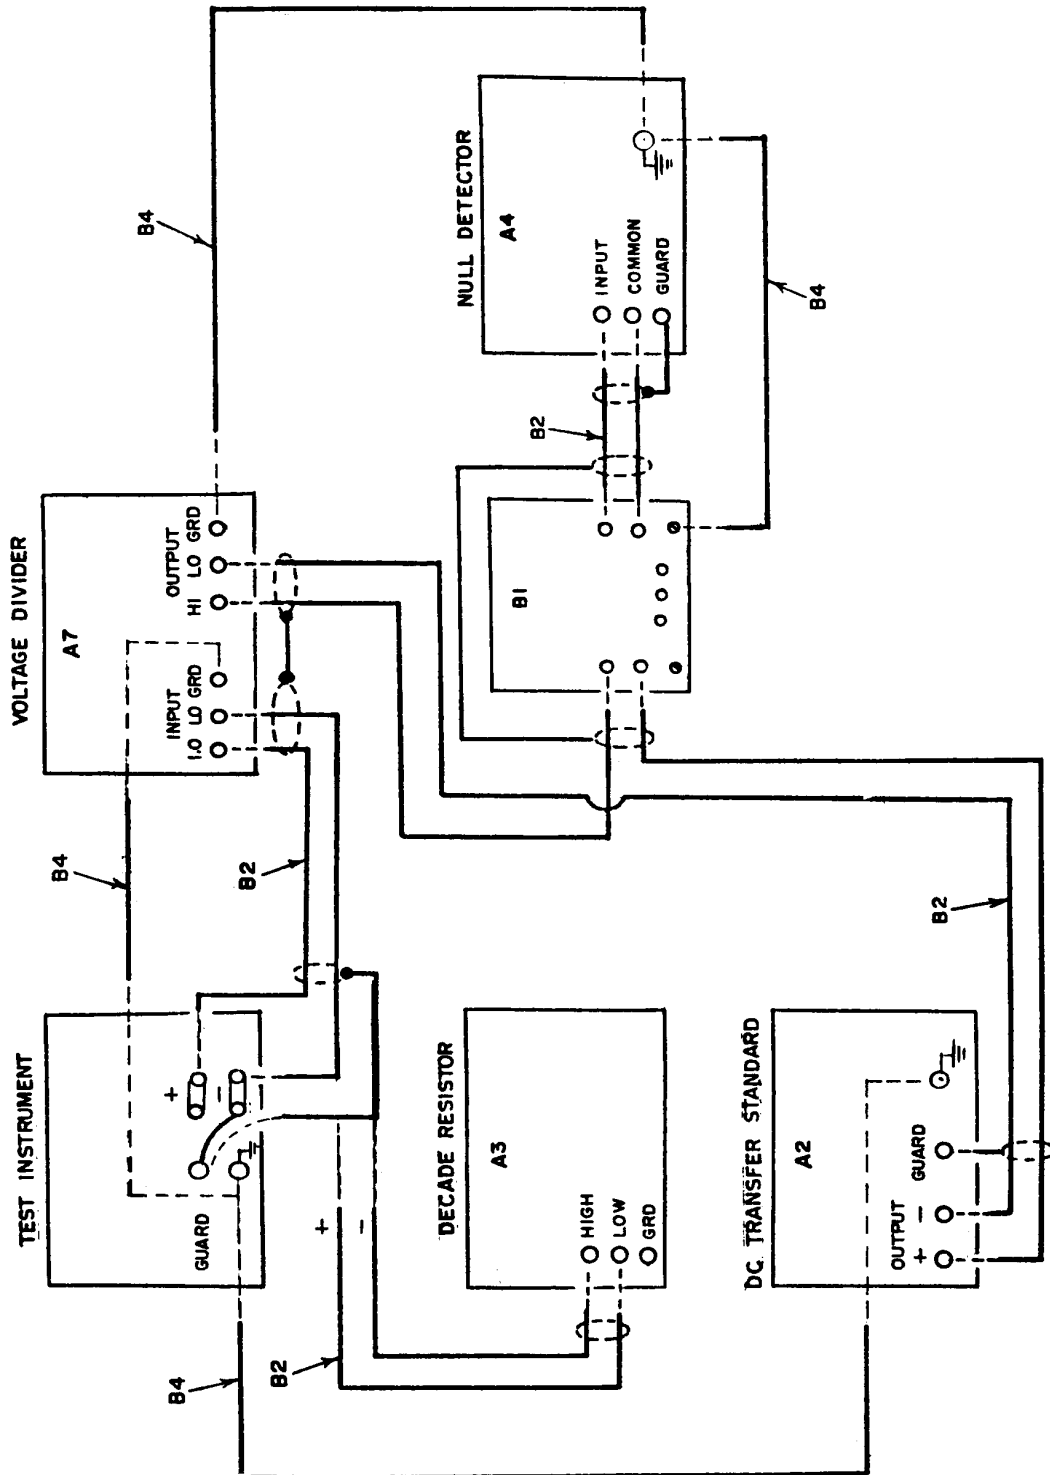

Figure 2. Regulation - equipment setup.
- (1) Connect equipment as shown in figure 2.
- (2) Set decade resistor (A3) to 20 ohms.
- (3) Set voltage divider (A7) to .999999X.
- (4) Adjust dc transfer standard (A2) for a 1-volt mean output.
- (5) Adjust TI voltage dials for a nominal 1-volt output and turn POWER switch to ON.
- (6) Adjust TI voltage dials for a null indication on null detector (A4). Record voltage dial indication.
- (7) Adjust autotransformer (A1) output to 105 volts and wait 1 minute.
- (8) Adjust TI voltage dials for a null indication on null detector.